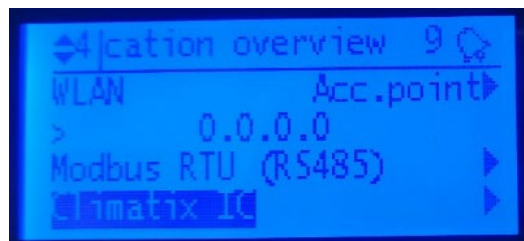

Figure no. 20
9. Go back and select **Climatix IC**. (see figure no. 20)